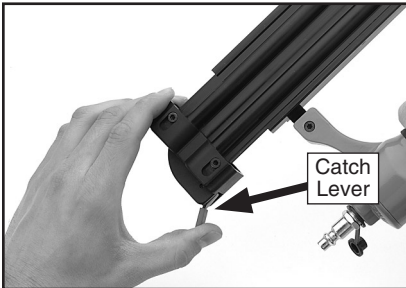

Figure 3. Sliding magazine pusher back and locking catch lever in place.
2. Sliding magazine pusher back, as shown in **Figure 3**, to lock the catch lever in place.